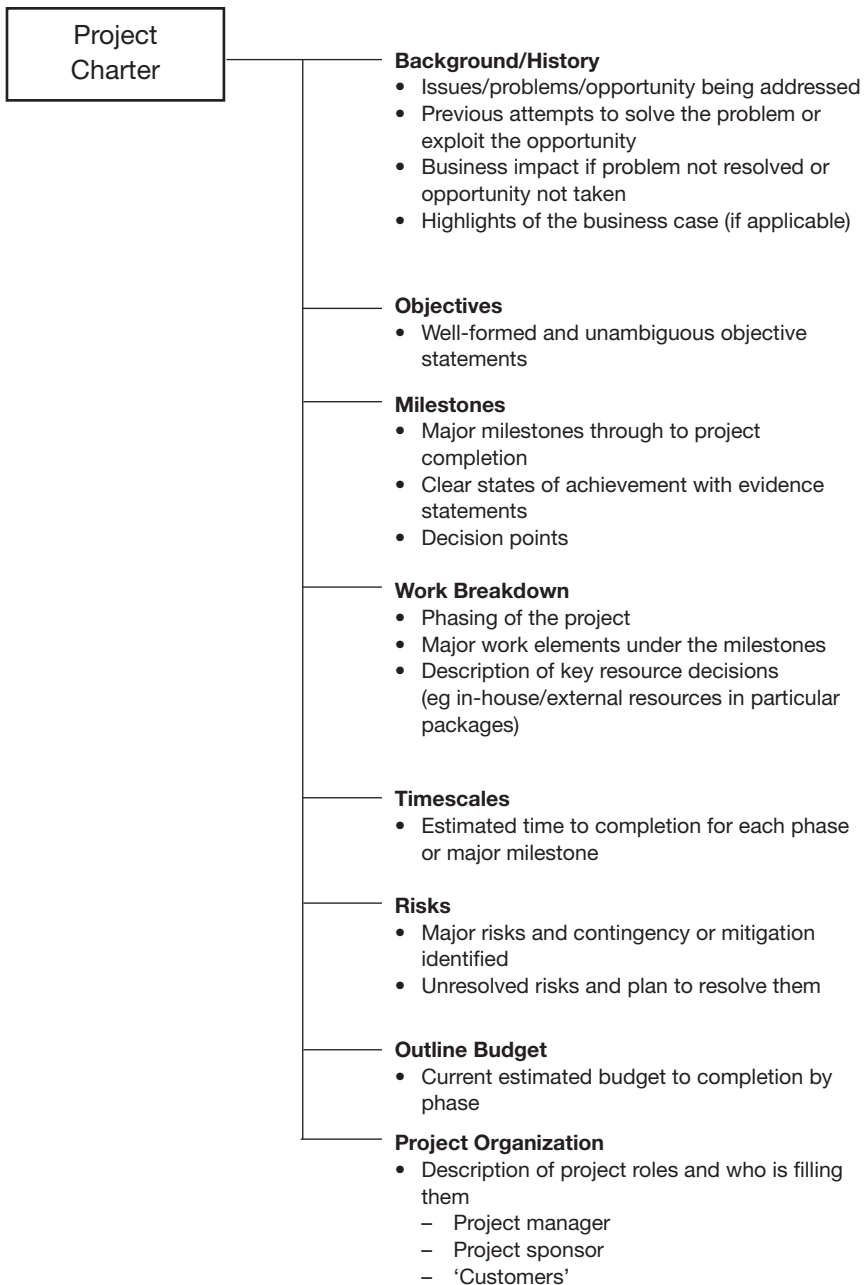

Figure 5.4 Contents of a Project Charter
5. The Project Charter should contain most of the elements shown in Figure 5.4.